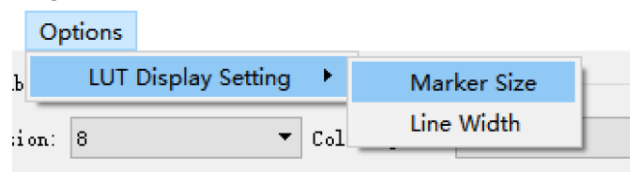

Figure 2-6-8
7. **Options:** Support LUT display settings, you can adjust the size and line width of marker points, as shown in Figure 2-6-8.